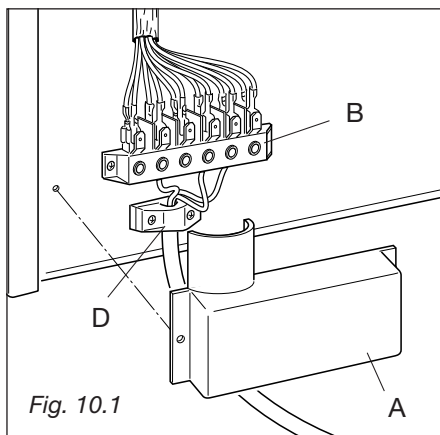
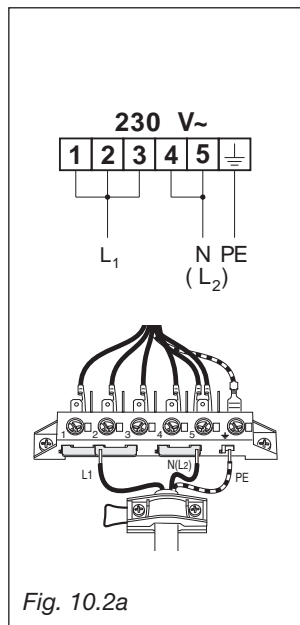

Fig. 10.1
Fig. 10.2a
- Position the U bolts onto terminal block **B** (fig. 10.1) according to the diagram in fig. 10.2a, 10.2b, 10.2c.
- Connect the phase and earth cables to terminal **B** according figures 10.2a, 10.2b, 10.2c.